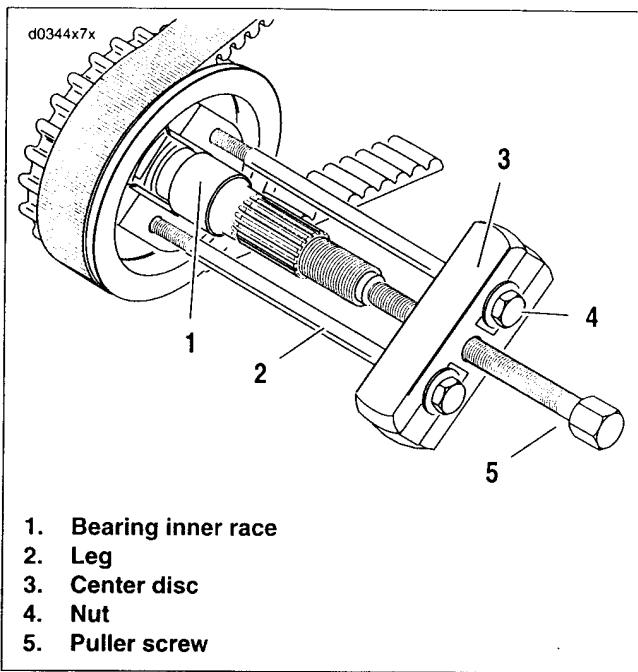

Figure 7-22. Pulling Mainshaft Inner Bearing Race
5. See Figure 7-22. Remove the bearing inner race from the transmission mainshaft using BEARING RACE PULLER AND INSTALLATION TOOL (Part No. HD-34902-B).